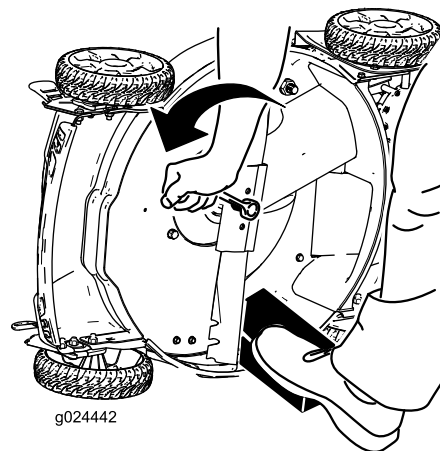

Figure 29
3. Use a block of wood to hold the blade steady (Figure 29).
- Remove the blade, saving all mounting hardware (Figure 29).